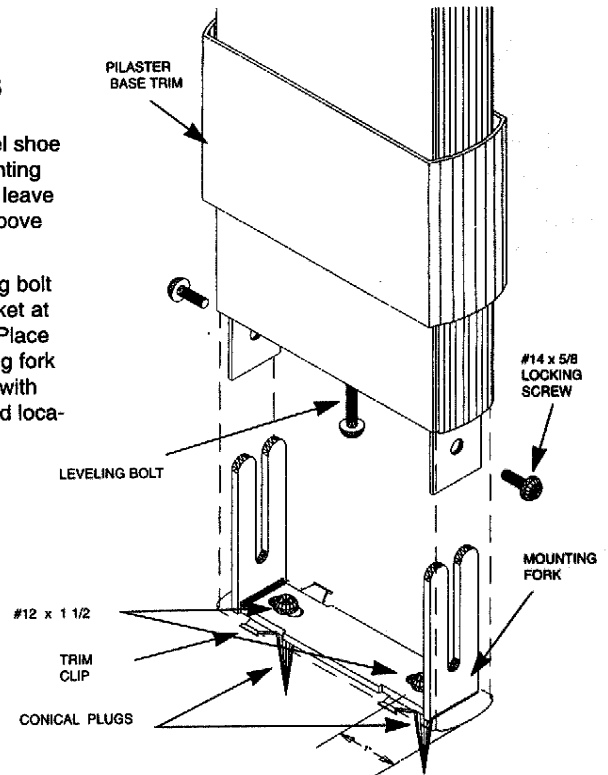

Figure 5
- Level headrail from one compartment to the next by adjusting the jack leveling bolt on the mounting at the bottom of pilaster. See figure 5.